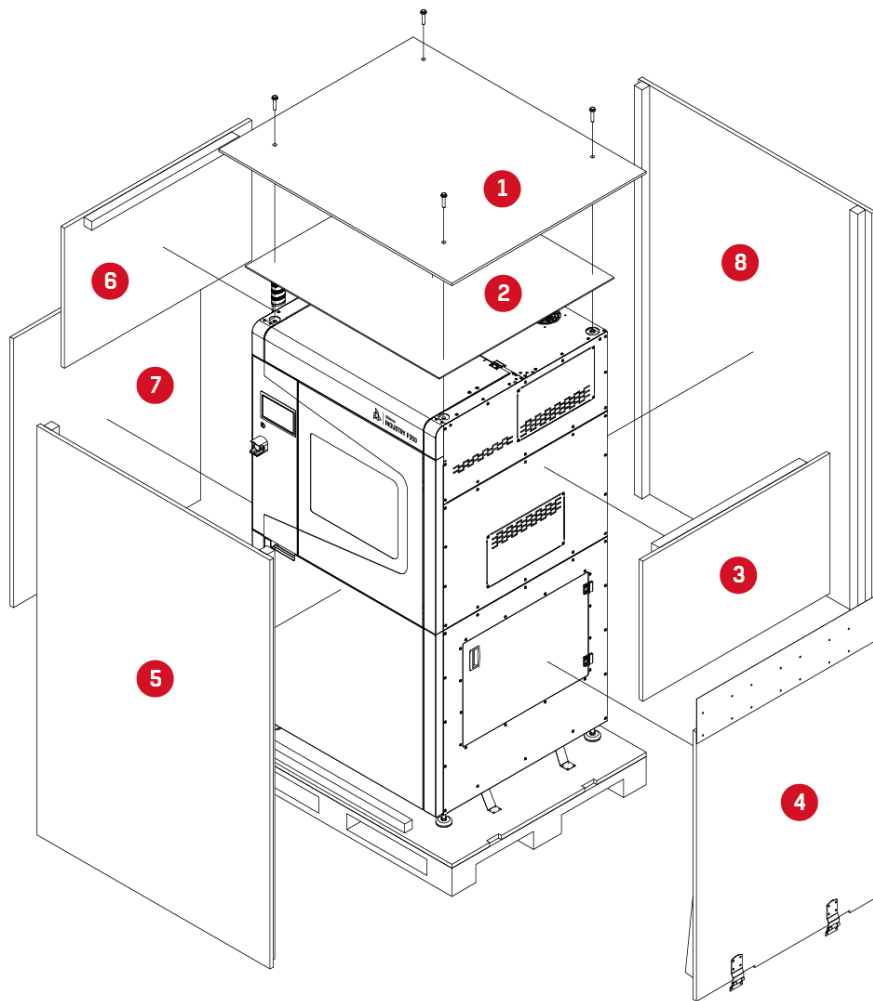

Fig. 8 Printer packaging, unpacking sequence
2. Unscrew OSB plates according to the sequence shown in Fig. 8. Put the boards and the screws aside. The manufacturer recommends to keep the packaging.